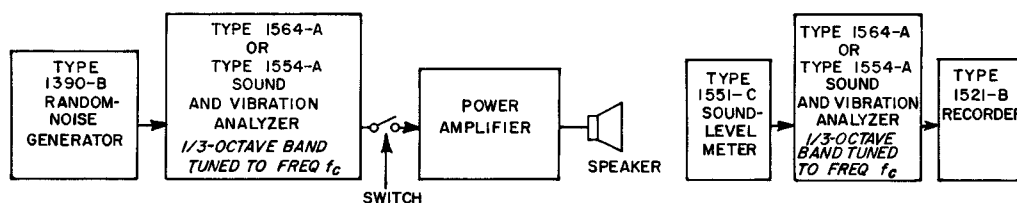

Figure 5.6. Setup for reverberation measurements.
Figure 5.6 shows the setup for reverberation measurements using a random-noise generator whose spectrum is flat with frequency. A third-octave-band filter following the generator is tuned to the desired frequency of measurement, generally 125, 250, 500, 1000, 2000, or 4000 cps. A switch after the filter permits instant silencing of the source. A power amplifier raises the level at least 40 db above the ambient noise level of the room or chamber. The type of loudspeaker is not critical, but its frequency response should be reasonably smooth, and it should not cause excessive distortion at the levels used. The preferred placement of the speaker is usually in a corner, where the maximum number of vibration modes are excited.
- Turn off the noise source, using the switch shown in Figure 5.6.